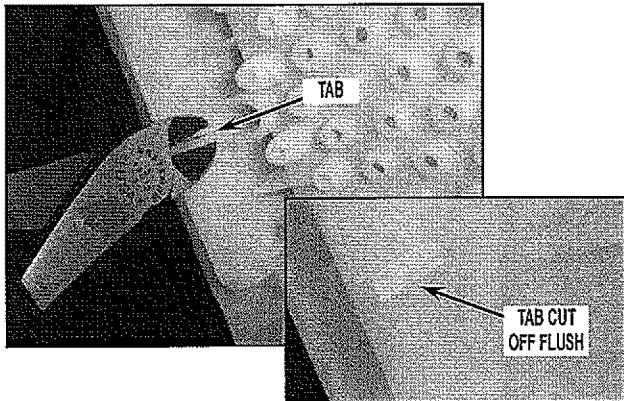

FIGURE 16
18. Cut tab off new impinger. See *Figure 16*.